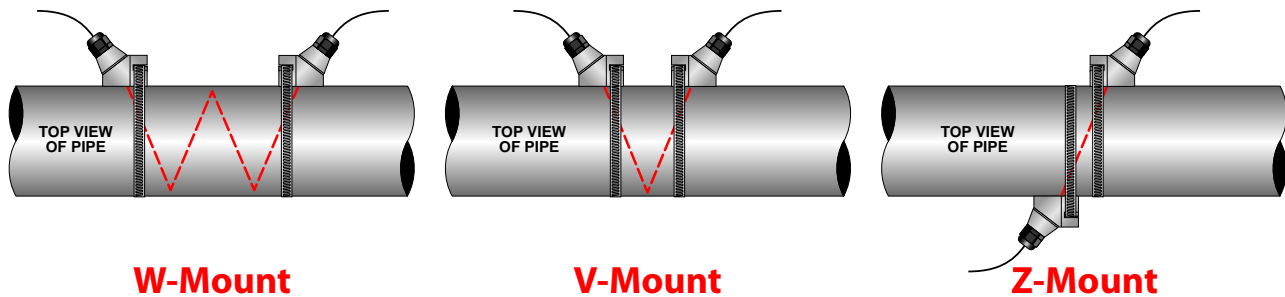

FIGURE Q.1 - TRANSDUCER MOUNTING CONFIGURATIONS
- 2) If the application requires DTN, DTL or DTH transducers select a mounting method for the transducers based on pipe size and liquid characteristics. See **Table 2.2**. Transducer configurations are illustrated in **Figure Q.1** below.